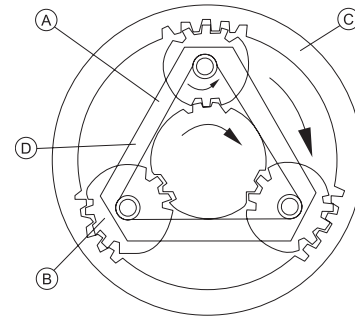

Figure 3-16
1. If the gear rim is fixed, the motion is transmitted from sun wheel (A) to planetary pinion (B). In this case, planetary pinion (B) rotates on its own on the one hand, and its axis also revolves around sun wheel (A). In the structure shown in the figure, the revolution direction of the planetary pinion's axis is the same as that of sun wheel (A). (See Figure 3-16) (See Figure 3-16)